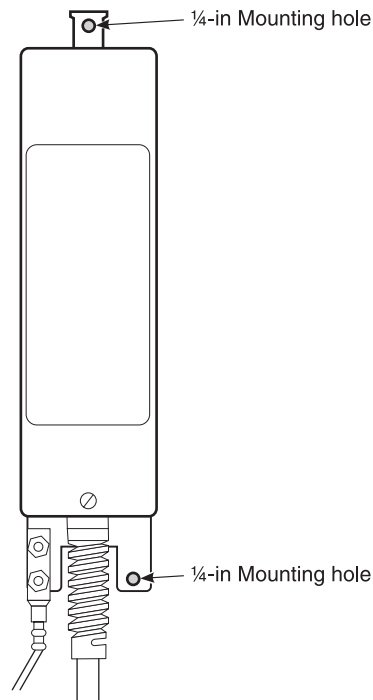

Figure 6. *Front View of Mounting Hole Locations*
- 2 Place the HRE-602 in the mounting location, then mark the mounting hole locations with a pencil. Figure 6 shows the mounting hole locations on the enclosure.